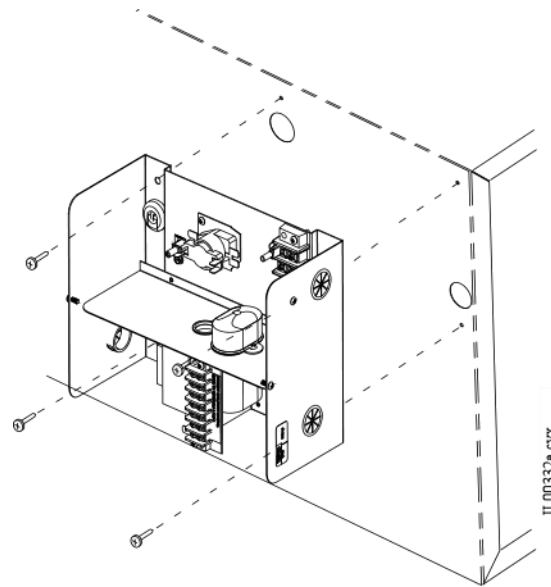

Figure 12. Control Box Mounting
To install, first remove the two knockouts on the side or top of the cabinet, where it will be installed. Mount the control box using four (4) sheet metal screws as shown in Figure 12. Connect the wiring as required in the wiring section and Bulletin 30-039 for the SCB control box and Bulletin 30-037 for the ST control box.